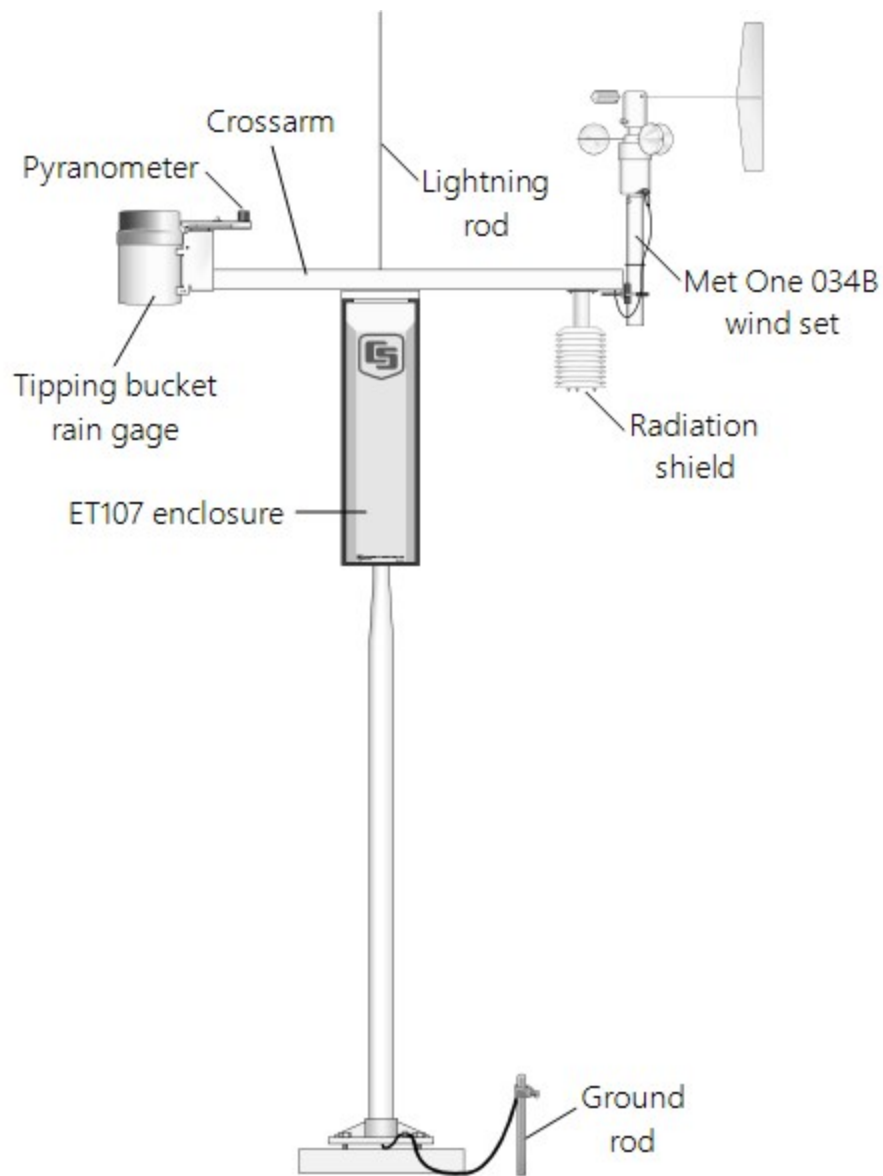

FIGURE 6-8. ET107 instrumentation mounted on the ET107 pole
- (1) ET107 crossarm with sensors (FIGURE 6-8 (p. 22))